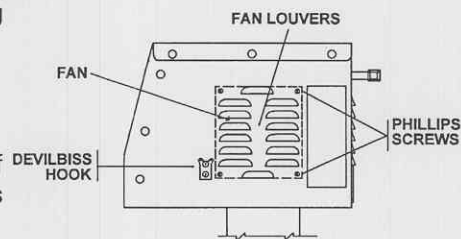

Figure 3-11. Fan assembly removal.
- (9) Remove the four Phillips screws and lockwashers fastening the fan assembly to the right side of the control/pump module (fig 3-11). Remove the fan and set it aside.